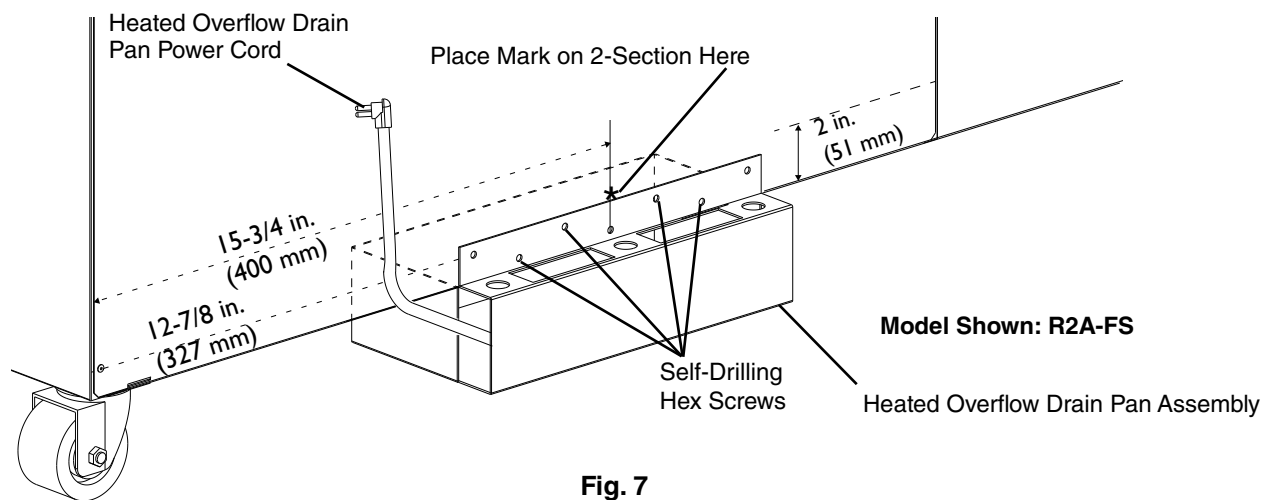

Fig. 7
**2-Section:** From the rear of the appliance, measure from the left side of the appliance 15-3/4 in. (400 mm) and up from the bottom 1-3/4 in. (44 mm) to 2 in. (51 mm) and place a mark. See Fig. 7. Next, place the heated overflow drain pan assembly at the rear and beneath the appliance, flush to the bottom, and with the center mounting hole lined up to the mark made. See Fig. 7. Lift the heated overflow drain pan assembly flush against the rear panel of the appliance and secure using 4 of the self-drilling hex screws provided in this kit. The heated overflow drain pan power cord should be on the left side from the rear view.